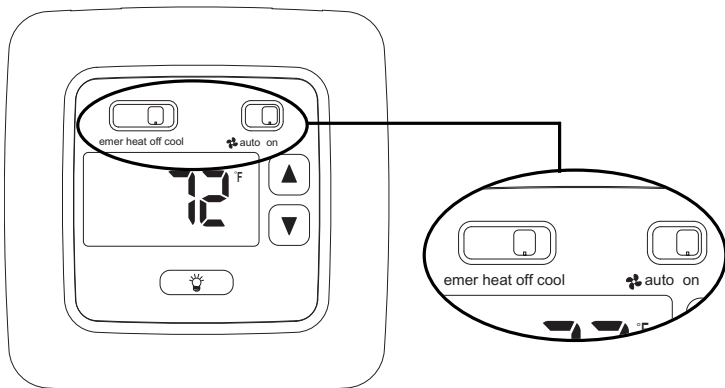

Figure 2
2. Place EMER-HEAT-OFF-COOL in OFF position (Figure 2).
3. Place  AUTO-ON switch into AUTO position (Figure 2).